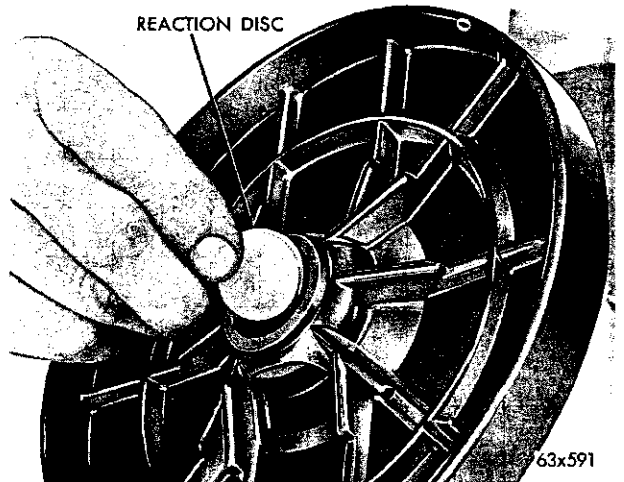

Fig. 21—Removing or Installing Reaction Disc
(12) Press out the reaction disc from the diaphragm plate (Fig. 21).